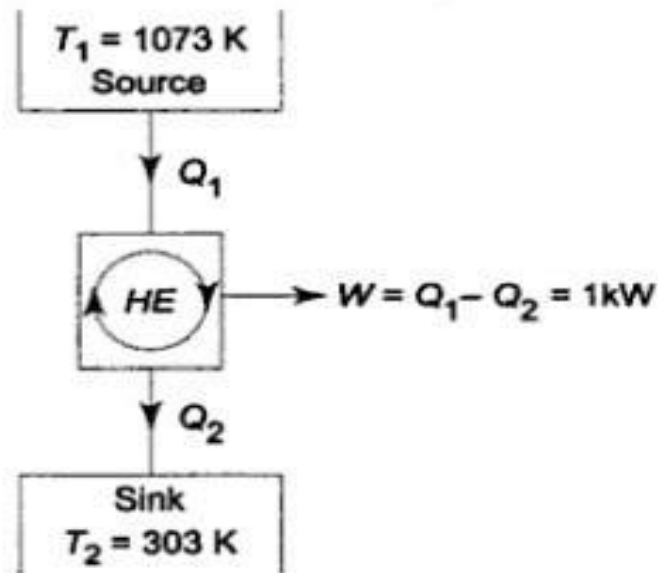

Fig. Ex. 6.1
**Solution** For a reversible engine, the rate of heat rejection will be minimum (Fig. Ex. 6.1).